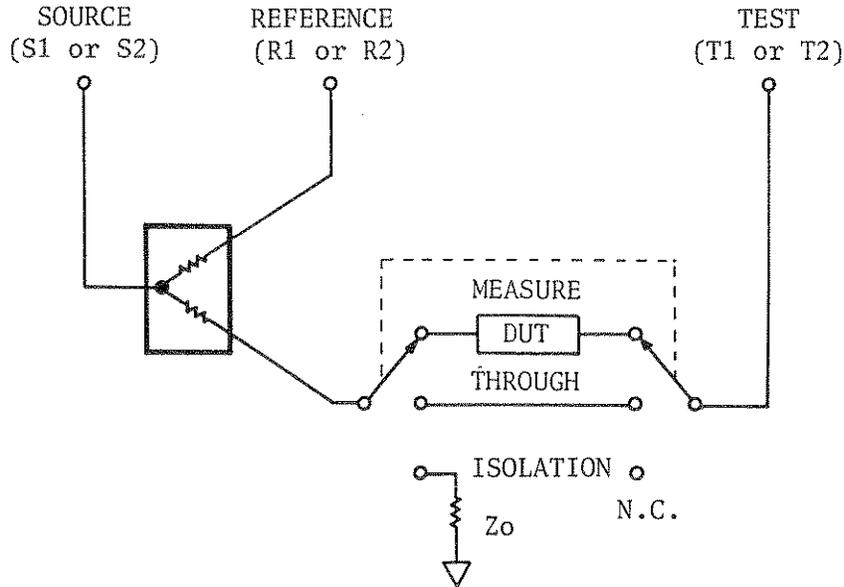

Figure 4-2. Transmission Calibration Diagram
2. Connect a power splitter, and a network as appropriate -- the MEASURE position shown in Figure 4-2.
6. Terminate the source signal with an impedance matched load, and disconnect the network under test from the setup, leave the test channel open -- the ISOLATION position shown in Figure 4-2.
8. Short circuit the test cables to make a through connection -- the THROUGH position shown in Figure 4-2.
10. Connect the network under test as appropriate for the selected measurement -- the MEASURE position shown in Figure 4-2.